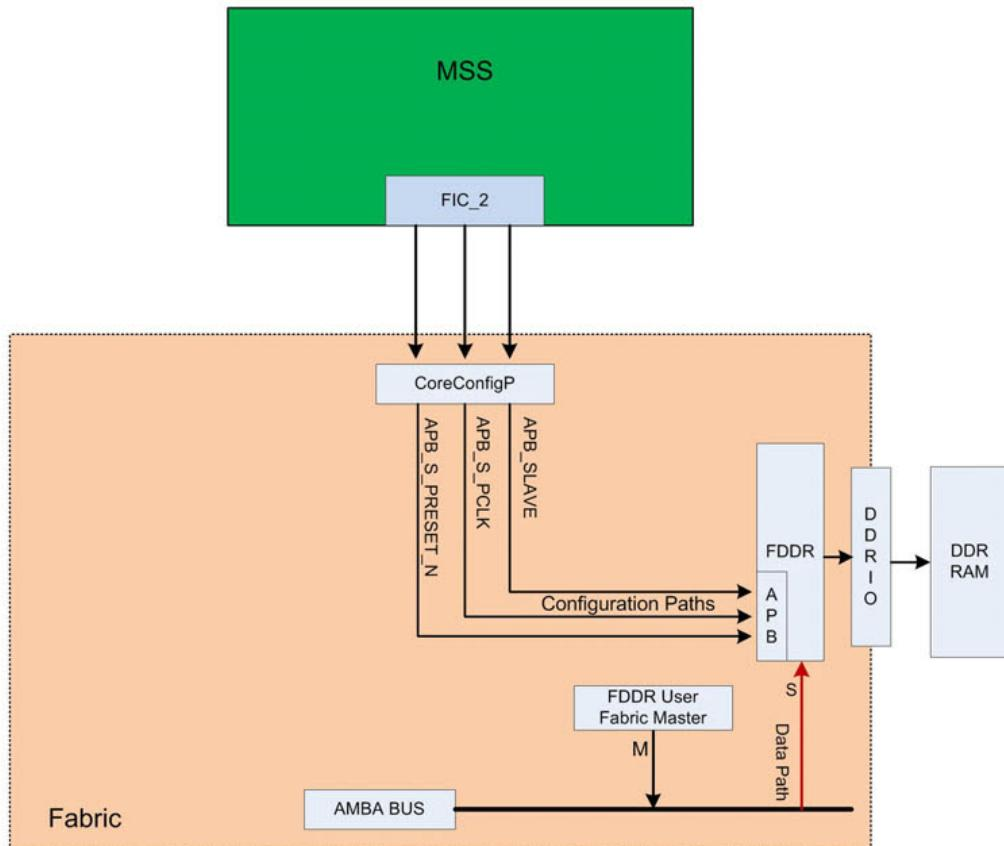

Figure 2-38 • FDDR Subsystem with a Fabric Master
- If you intend to have a Fabric Master access the Fabric DDR, then you click and drag a Fabric AMBA Master core into this subsystem from the available cores list and configure it as either AHB-Lite or AXI. Only one Master is supported on this subsystem. Figure 2-38 shows the FDDR Subsystem with a Fabric Master. When you generate your system, you get a BIF where you must connect your actual Fabric Master IP in the top level SmartDesign. Optionally, you may add AMBA Slaves to this subsystem. Adding a mix of user slave types (Fabric AMBA Slaves - AXI/AHB-Lite/APB3) to this subsystem is supported.